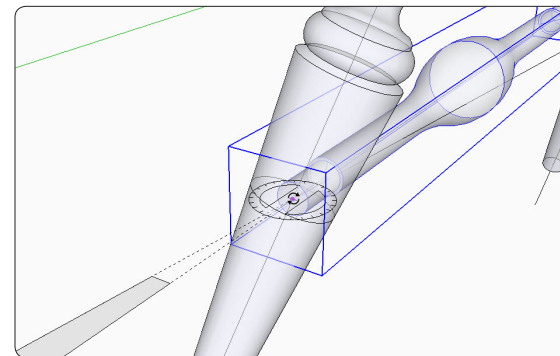

Figure 41. Draw two guidelines and a small flat face between them to set the rotation of the stretcher.
Step 13 Rotate the side stretcher into position the same way you rotated the legs: Create one guide line over the centerline of the stretcher and another on the Centerline component, then draw a small four-sided flat face to set the Rotate Tool. Select the side stretcher, then select the Rotate Tool. Hover over the flat face while you hold the Shift key. Connect the Rotate Tool to the guide point in the leg. Complete the rotation by clicking on one guide line then the other (Figure 41).